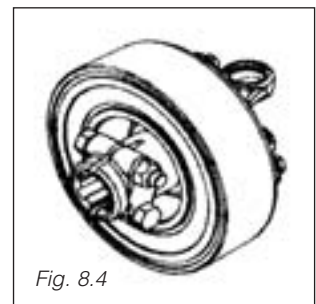

Fig. 8.4
1. When the torque exceed its limits, the power flow is interrupted. After disengaging the PTO shaft, the torque is re-established. (Fig. 8.4.).